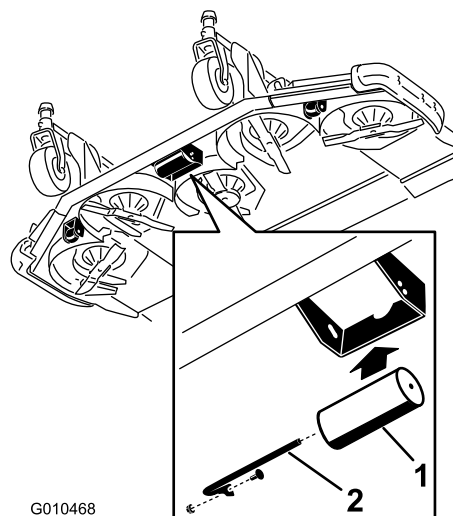

Figure 30
2. Slide the shaft out of the lower bracket holes, align the roller with the top holes, and install the shaft (Figure 30).